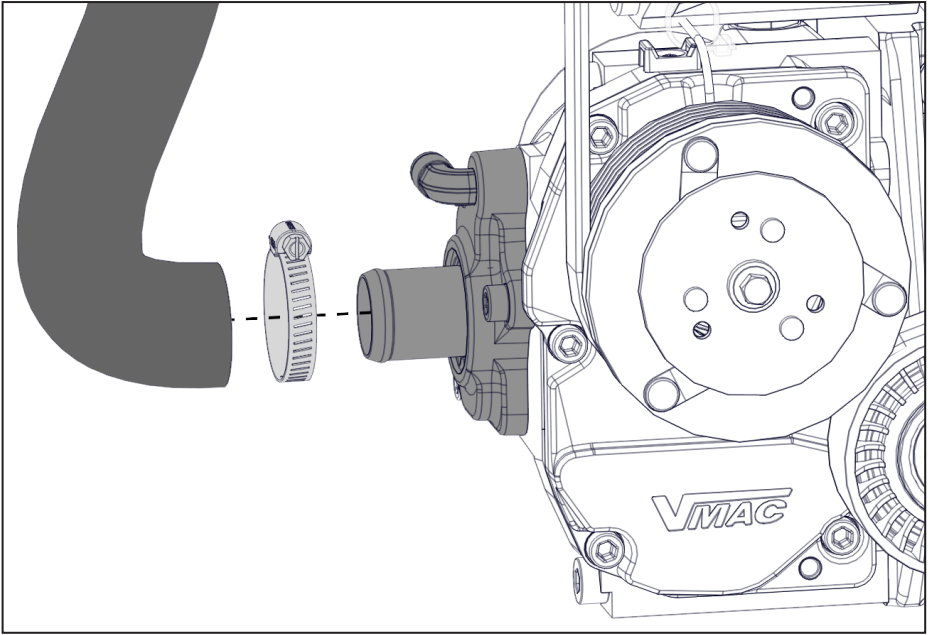

Figure 45 — Install intake hose
- Install the curved end of the 1 in intake hose assembly onto the spigot on the side of the compressor. Direct the hose upwards and secure it using the supplied hose clamp (Figure 45).